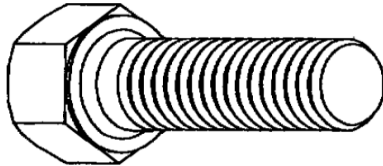

Fig. 40: Hexagonal head Cap screw 1" dia-8UNC-2A x 2 1/4" long
8.8 (See Fig. 40). **The cap screw threads should be properly cleaned and lubricated before fitment.** Cap screws having rusted threads should be used only after proper cleaning and lubricating. **Mating threads on axle end holes should also be checked, cleaned and lubricated.**